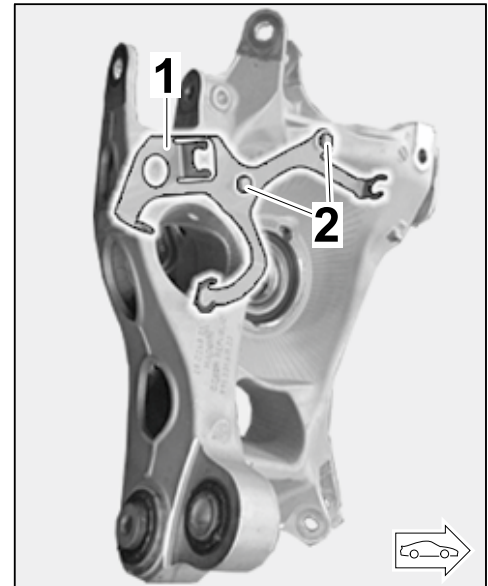

Figure 18
- 2.5.1 Remove combination holder (at the left/right) from the old wheel carrier and fit it on the respective new wheel carrier using two new hexagon-head bolts (M6 x 16) (⇒ Figure 18).